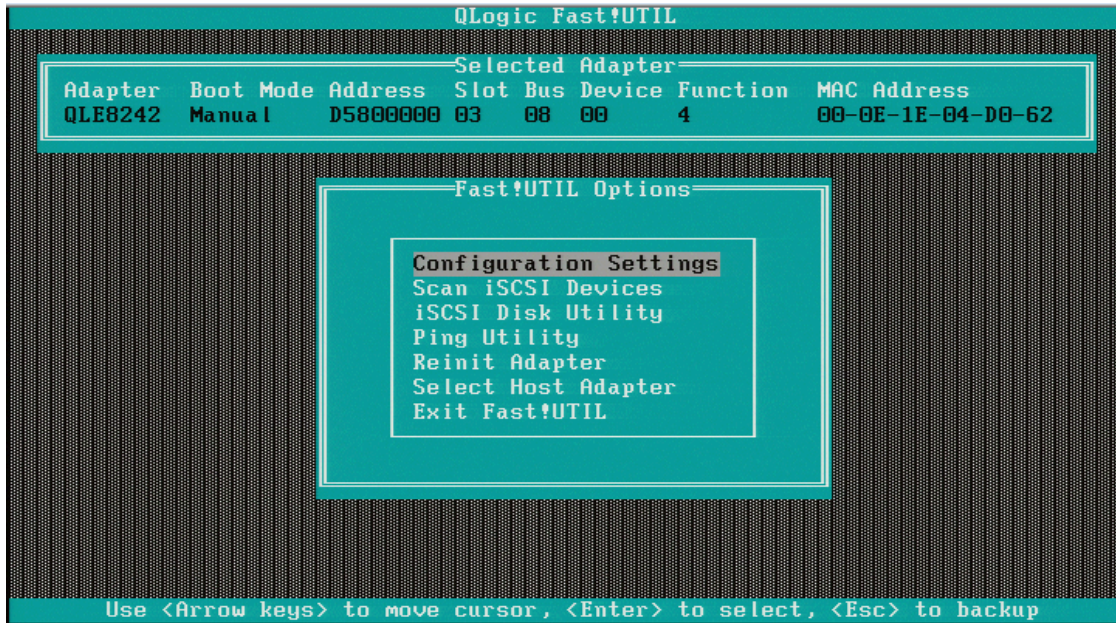

Figure 101 Individual adapter configuration options
- Use the arrow keys to select the adapter and the next screen displays selected adaptor configuration options, as shown in Figure 101.